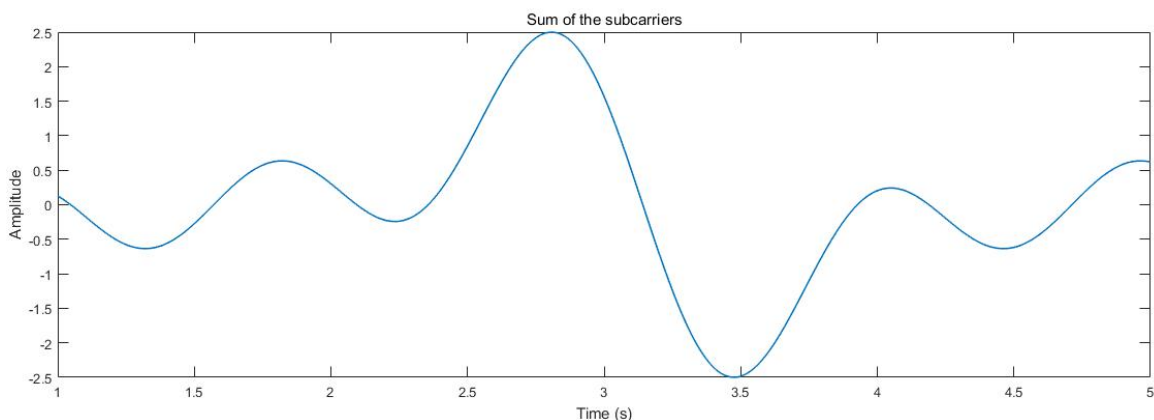

Figure 4: Final FDM signal
Figure 4 shows the sum of subcarriers as the final Baseband (BB) message: